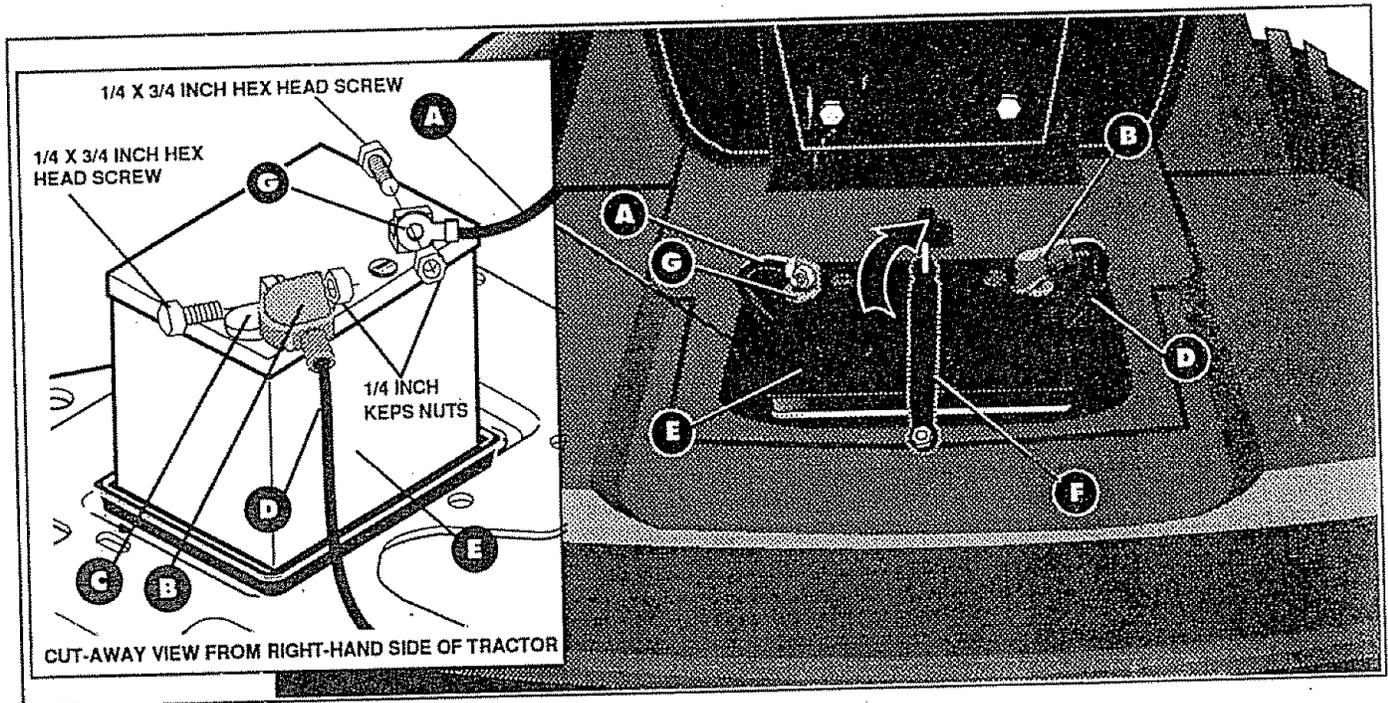

FIG. 5
REINSTALL CHARGED BATTERY (See Fig. 5)
- Re-hook rubber hold-down strap (F)
- Attach positive (+) red battery cable (D) to positive (+) terminal (C) on battery with a 1/4 X 3/4 inch head screw and a 1/4 inch keps nut. Tighten nut securely.
- Place battery boot (B) over positive (+) battery terminal (C) (see Fig. 5 inset).
- Attach negative (-) black battery cable (A) to negative (-) terminal (G) on battery with a 1/4 X 3/4 inch hex head screw and a 1/4 inch keps nut. Tighten nut securely.